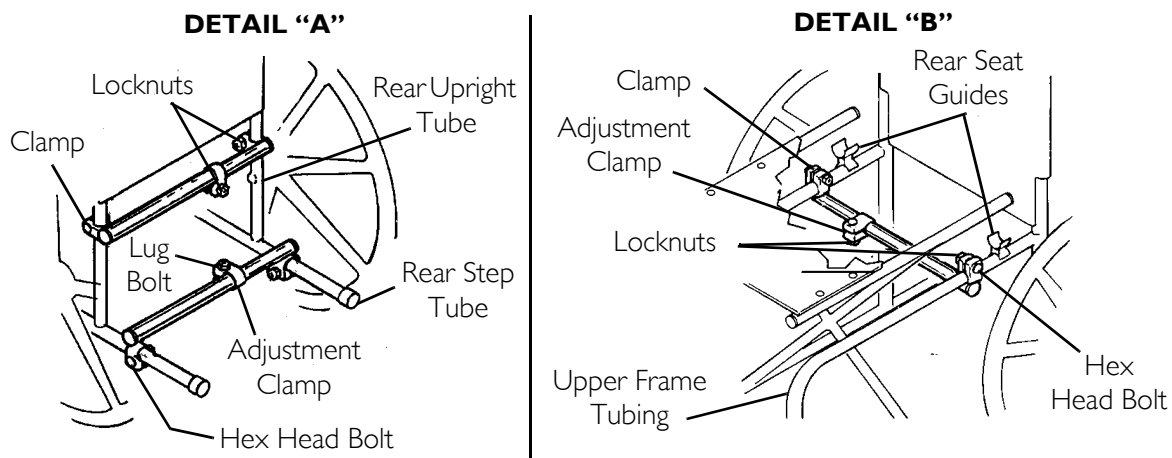

FIGURE 1 Installing the Non-Folding Device
NOTE: For this procedure, refer to FIGURE 1.
- 5. Position one clamp of the non-folding device in the pre-determined position from STEP 3 as shown in FIGURE 1. If you are mounting this device on 7/8-inch tube, put the plastic insert guides around the 7/8-inch tube under the clamps.